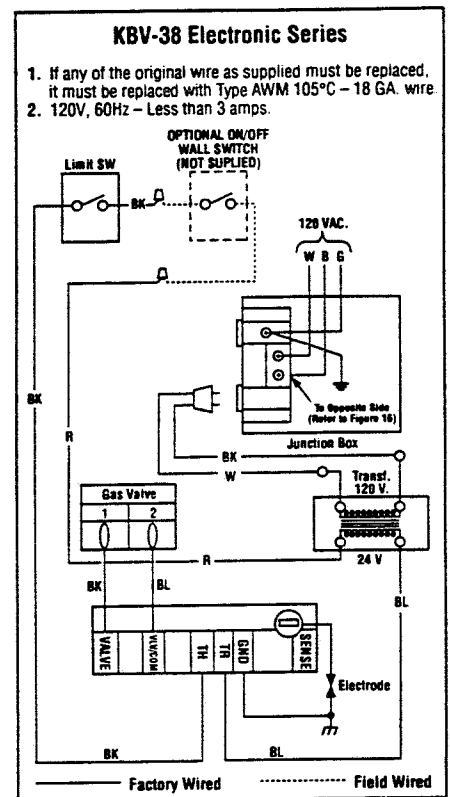

Figure 14
B. Electronic Wiring – The KBV-38 appliance must be connected to the main power supply. To install, route a 3-wire 120V 60Hz power supply to the appliance junction box and ground. Locate and install a low voltage (24V) wall switch (not supplied) in the desired location. Connect the low voltage wire to this switch (refer to Figure 14).
1. Route a 3-wire 120V 60Hz power supply line to the appliance junction box wires and ground (Figures 14 and 16).